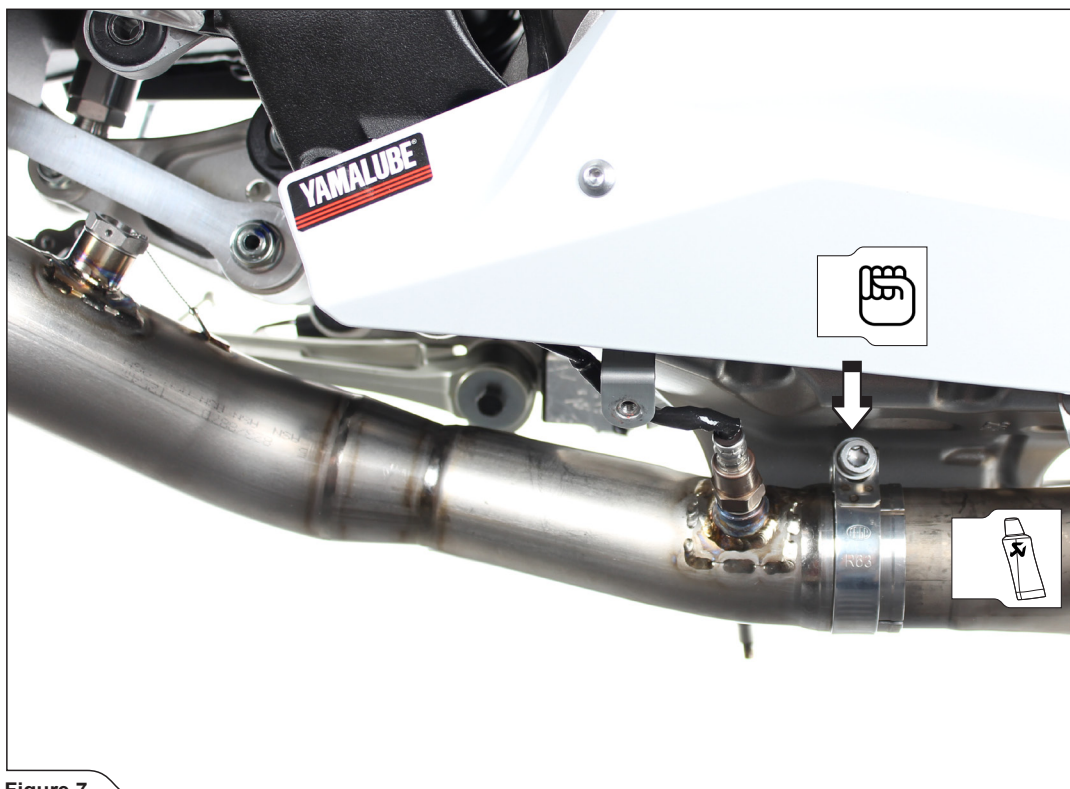

Figure 7
- Slide the link pipe onto the collectors and only hand tighten connection clamps on both sides (Figure 7).